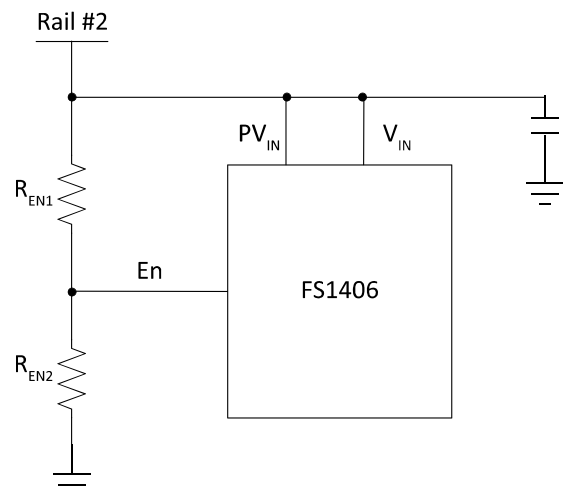

Figure 11 En pin used to monitor other rails for sequencing purposes
- It can be used to monitor other rails for a specific power sequencing scheme (Figure 11).